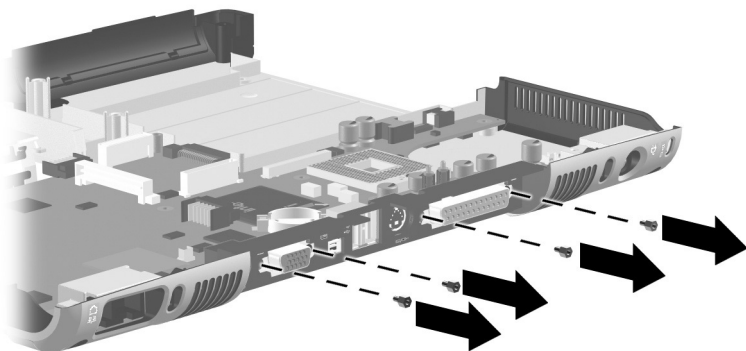

Figure 5-32. Removing the System Board Screwlocks
3. Remove the four HM5 × 10.5 screwlocks that secure the system board to the base enclosure (Figure 5-32).